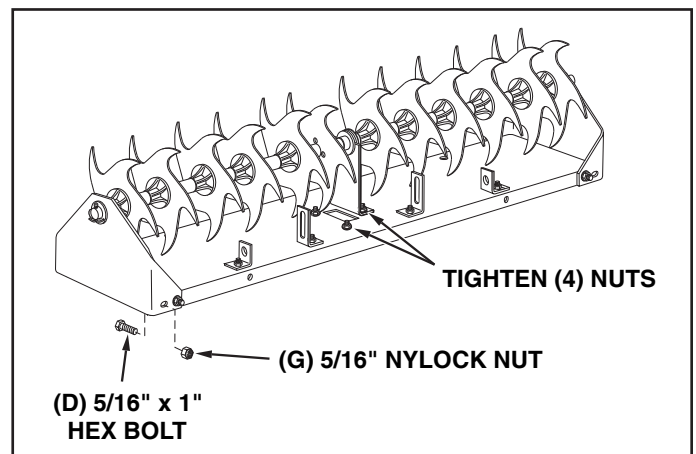

FIGURE 7 **REAR VIEW**
12. Assemble four 5/16" x 1" hex bolts (D) and 5/16" nylock nuts (G) to the holes that were left empty at each corner of the tray. **Tighten** all eight corner bolts. See figure 7.